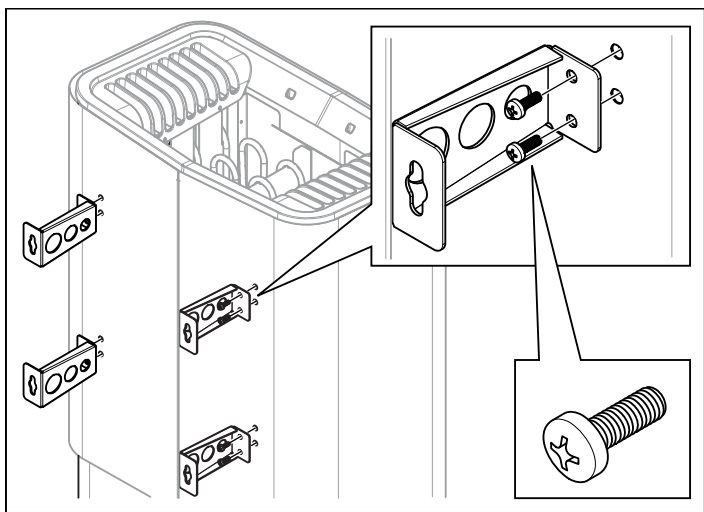

Figure 7: Attaching the brackets to the heater
- 5. Unscrew the first two screws on the back of the heater and screw one of the four brackets into place. Repeat the procedure until all of the brackets are fitted see Figure 7, Page 7.